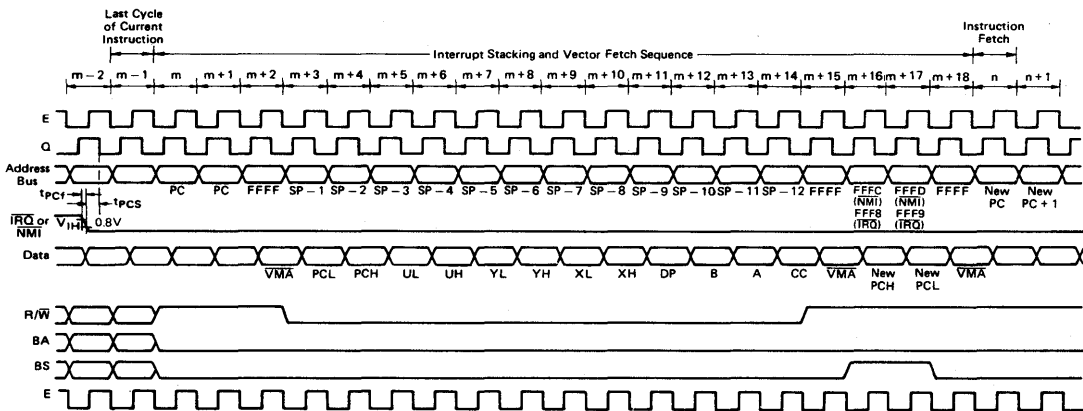

Figure 9  $\overline{\text{IRQ}}$  and  $\overline{\text{NMI}}$  Interrupt Timing
hardware stack. After reset, an NMI will not be recognized until the first program load of the Hardware Stack Pointer (S). The pulse width of NMI "Low" must be at least one E cycle. If the NMI input does not meet the minimum set up with respect to Q, the interrupt will not be recognized until the next cycle. See Fig. 9.
A "Low" level input on this pin will initiate an interrupt sequence provided the mask bit (I) in the CC is clear. Since  $\overline{\text{IRQ}}$  stacks the entire machine state it provides a slower response to interrupts than  $\overline{\text{FIRQ}}$ .  $\overline{\text{IRQ}}$  also has a lower priority than  $\overline{\text{FIRQ}}$ . Again, the interrupt service routine should clear the source of the interrupt before doing an RTI. See Fig. 9.